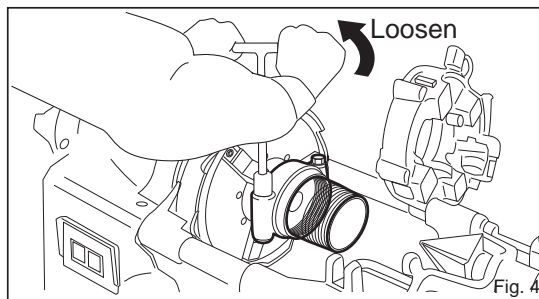

Fig. 4
6. Turn both bolts two or three times to loosen the attachment. Unthread the completed nipple by hand and remove it. (Fig. 4)